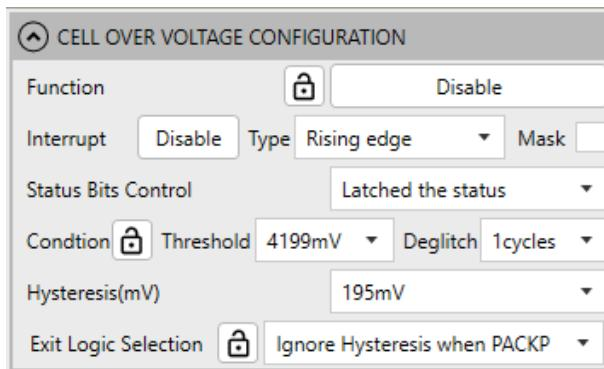

Figure 25: Cell Over-Voltage Configurations
21. Configure the cell over-voltage (OV) parameters (see Figure 25).